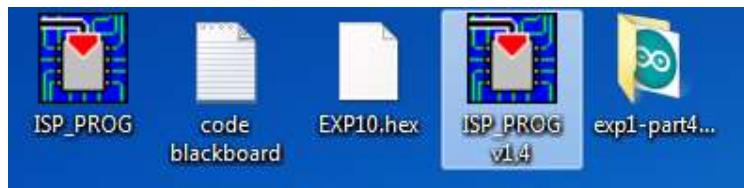

Figure 3.16: Open ISP_PROGv1.4
- c. Open ISP_PROG v1.4 as shown in Figure 3.16.